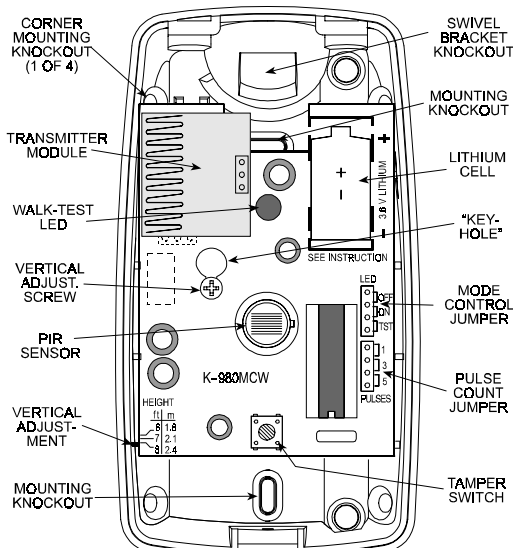

Figure 3. Inside View
B. Insert the battery into the battery clip - observe polarity (see Figure 3).
- B. Loosen the vertical adjustment screw, slide the PCB down and remove it via the "keyhole" (see Figure 3).